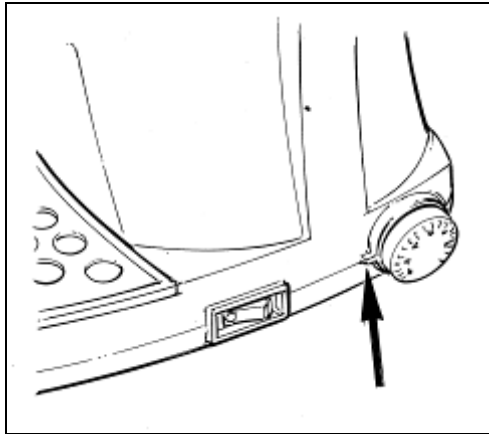

Fig. 12
- In order to regulate the desired temperature, rotate the thermostat knob until this temperature will match the plastic pin indicated by the arrow in figure 12.